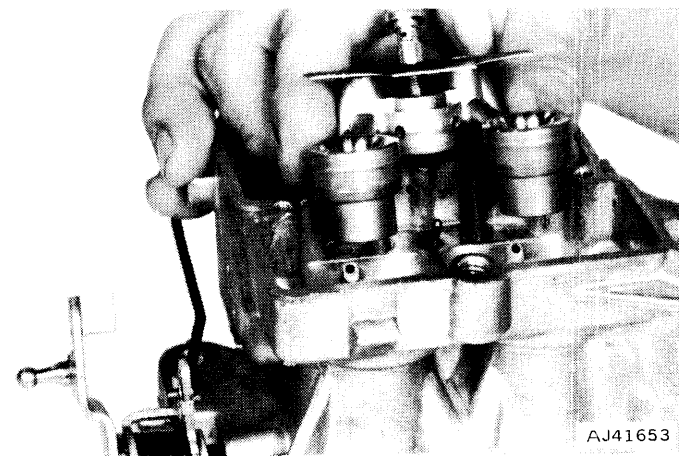

Fig. 4-75 Removing Booster Venturi Assembly
(15) Remove accelerator pump discharge screw, air distribution plate, booster venturi and gasket (fig. 4-75). Invert main body and let accelerating pump discharge weight and ball fall into hand.